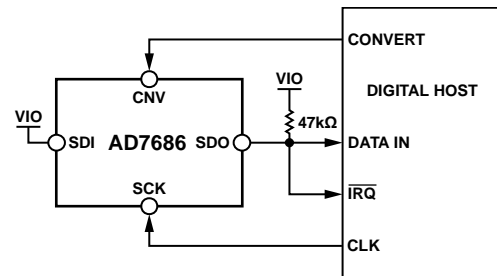
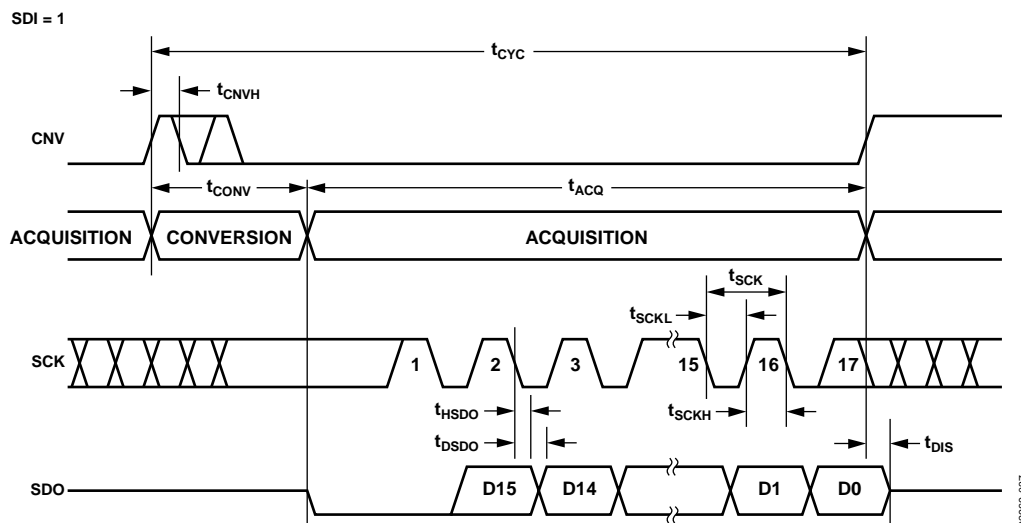
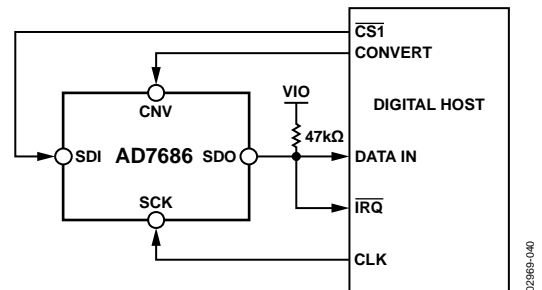
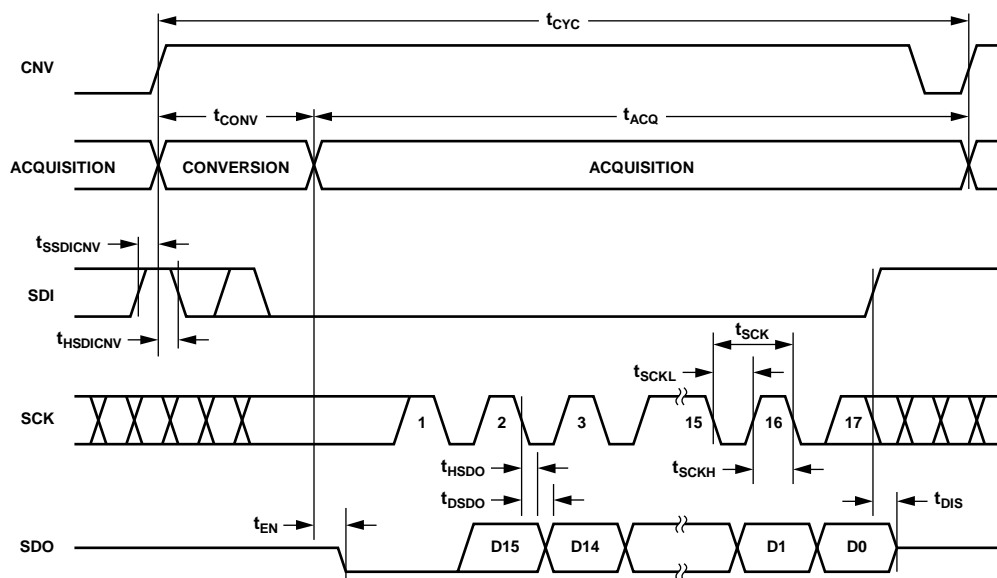

Figure 35.  $\overline{CS}$  Mode 3-Wire with Busy Indicator Connection Diagram (SDI High)
Figure 36.  $\overline{CS}$  Mode 3-Wire with Busy Indicator Serial Interface Timing (SDI High)
Figure 39. CS Mode 4-Wire with Busy Indicator Connection Diagram
Figure 40. CS Mode 4-Wire with Busy Indicator Serial Interface Timing
- In  $\overline{CS}$  mode, if CNV or SDI is low when the ADC conversion ends (see Figure 36 and Figure 40).
This mode is generally used when a single AD7686 is connected to an SPI-compatible digital host having an interrupt input. The connection diagram is shown in Figure 35, and the corresponding timing is provided in Figure 36.
This mode is usually used when a single AD7686 is connected to an SPI-compatible digital host, which has an interrupt input, and when it is desired to keep CNV, which is used to sample the analog input, independent of the signal used to select the data reading. This requirement is particularly important in applications where low jitter on CNV is desired. The connection diagram is shown in Figure 39, and the corresponding timing is provided in Figure 40.